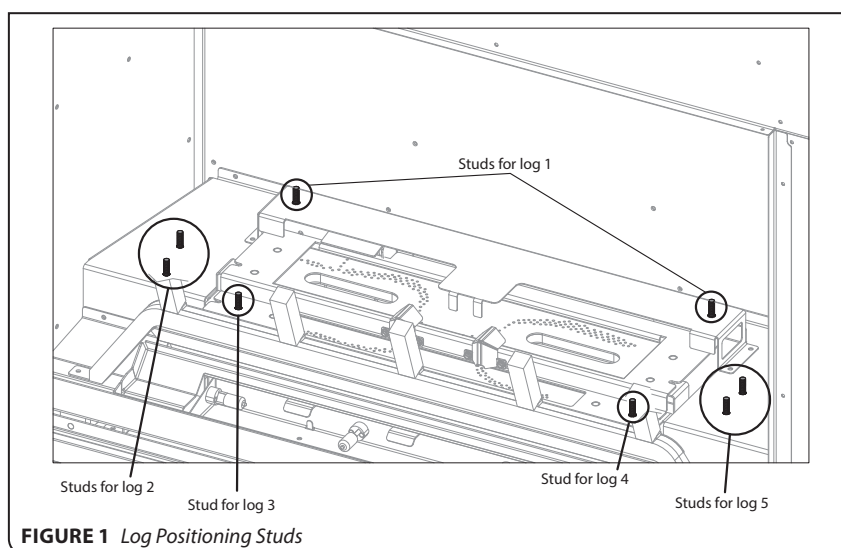
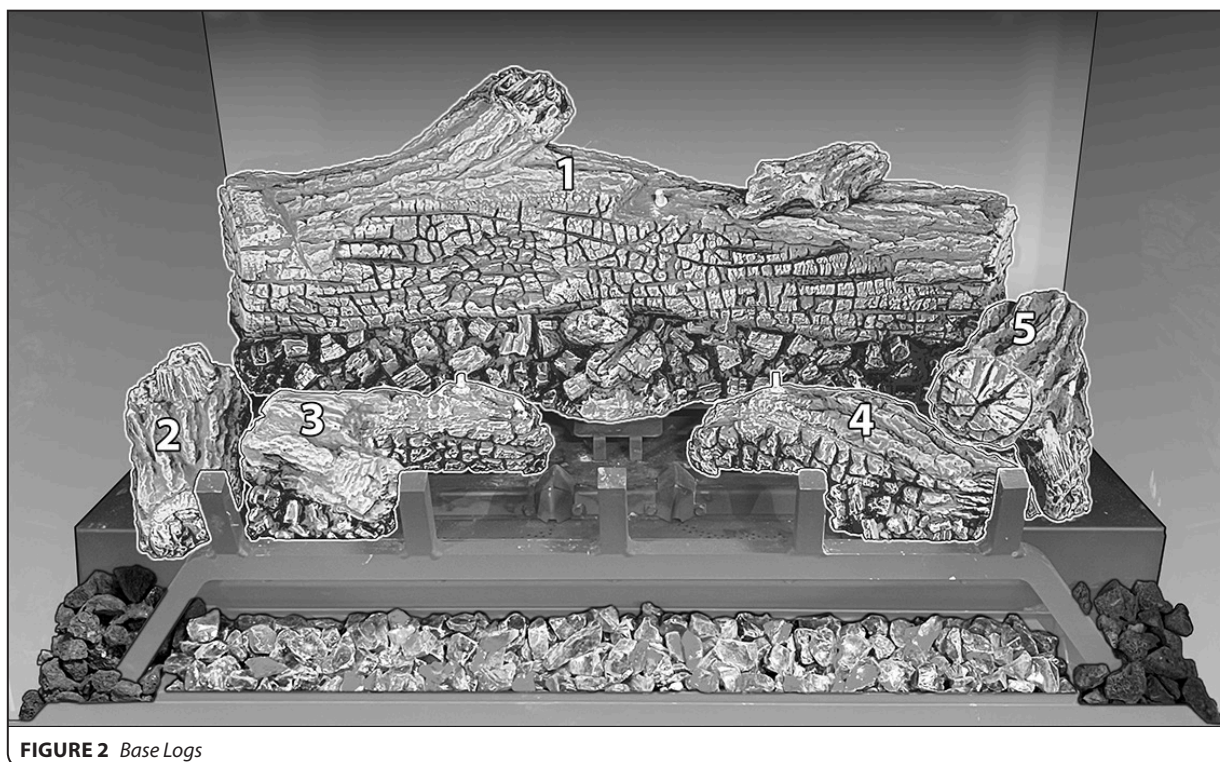

FIGURE 1 Log Positioning Studs
FIGURE 2 Base Logs
1. Align the holes in the bottom of log 1 with the studs on the burner (**FIGURE 1**) and place the log into position at the rear of the firebox, as shown in **FIGURE 2**.
2. Align the holes in the bottom of logs 2, 3, 4, and 5 with the studs on the burner (**FIGURE 1**) and place the logs into position, as shown in **FIGURE 2**.